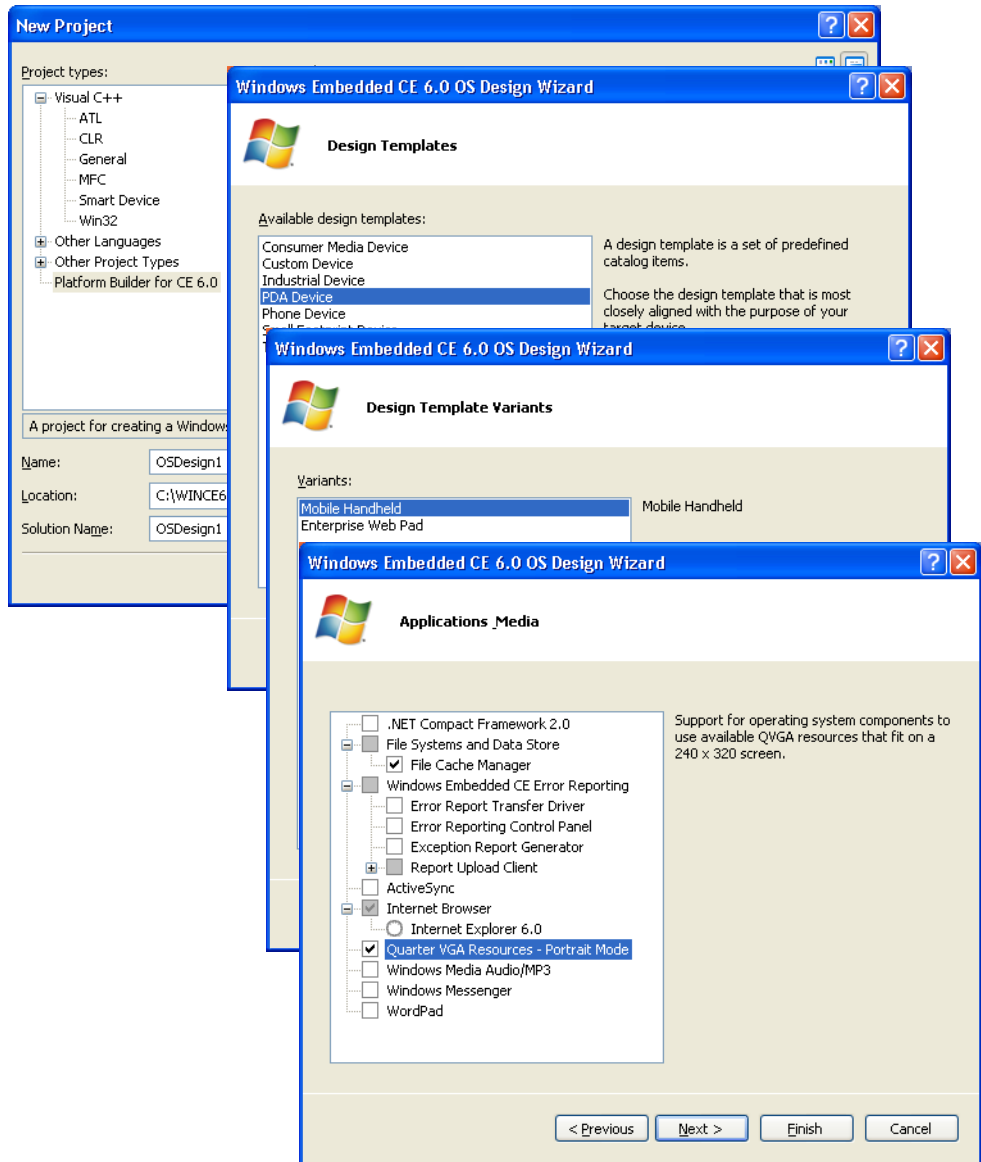

Figure 1-8 Creating an OS design for a PDA device
6. Deselect .NET Compact Framework 2.0 and ActiveSync on the next wizard page, as illustrated in Figure 1-8. The Internet Browser and Quarter VGA Resources-Portrait Mode check boxes should remain checked.